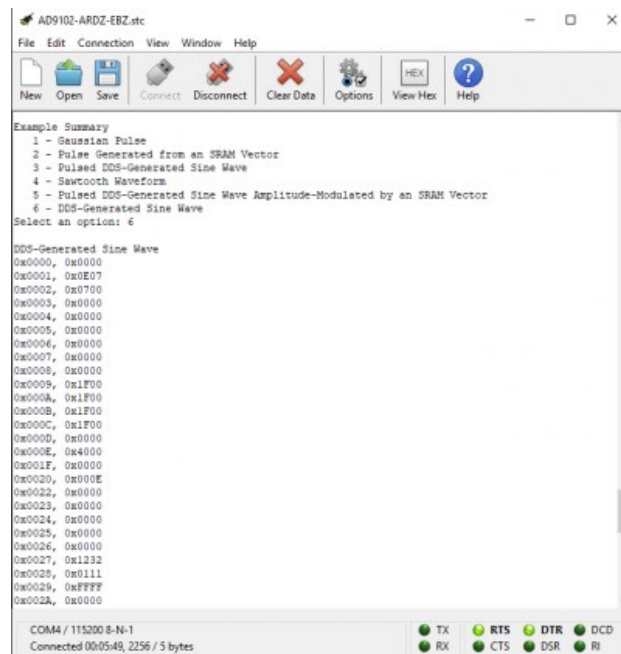

Figure 10. Printing of SPI register addresses and data on CoolTerm
11. After selecting an example, the device's register addresses and corresponding data words will be displayed on the console and patterns will be generated at the DAC outputs as demonstrated in Figure 10. Resulting waveforms are shown in Figures 11a to 12c.